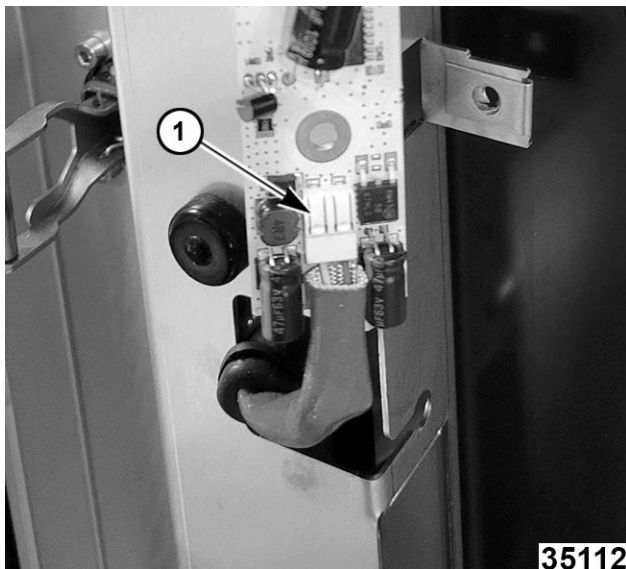

Fig. 41
4. Locate wiring connector (1, Fig. 41). Mark wires.
5. Push on tab (1, Fig. 41) to disconnect wires (2, Fig. 41).